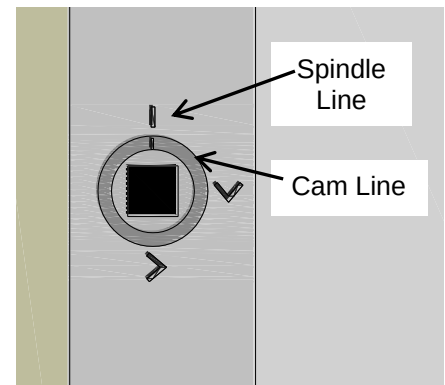

figure 22
2. Turn the first cam counterclockwise (ccw) using the chuck key until the line on the cam is aligned with the line on the spindle housing as shown in (fig. 22).